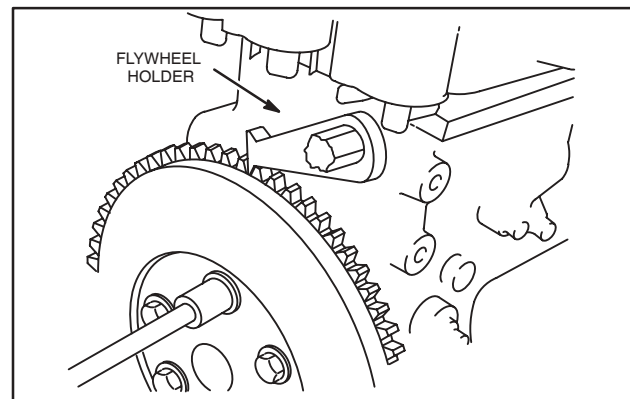

Fig. 2 – Removing Flywheel
- a. Remove flywheel screws and flywheel, Fig. 2.